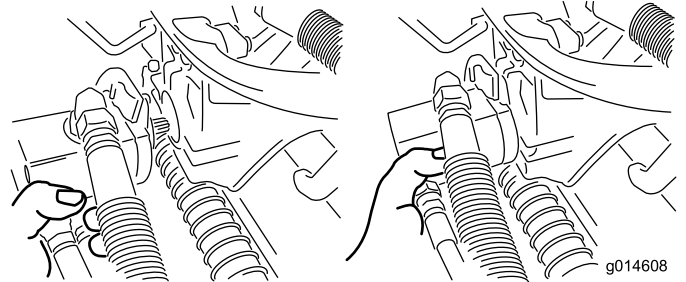

Figure 37
3. Move the motor to the storage location on the front of the suspension arm (Figure 37).